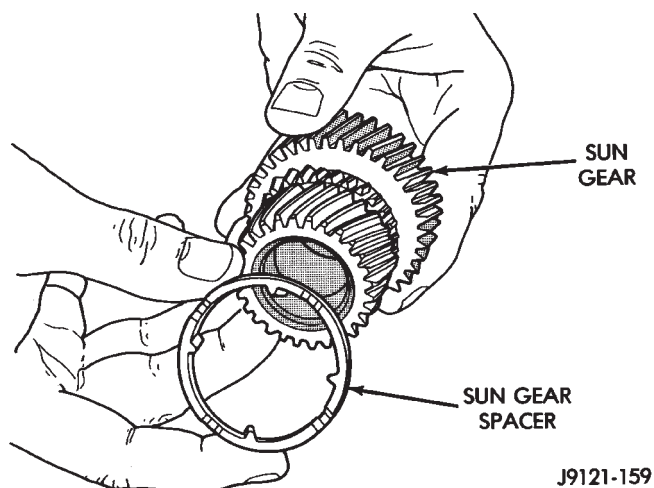

Fig. 83 Installing Spacer On Sun Gear
(7) Install spacer on sun gear (Fig. 83).